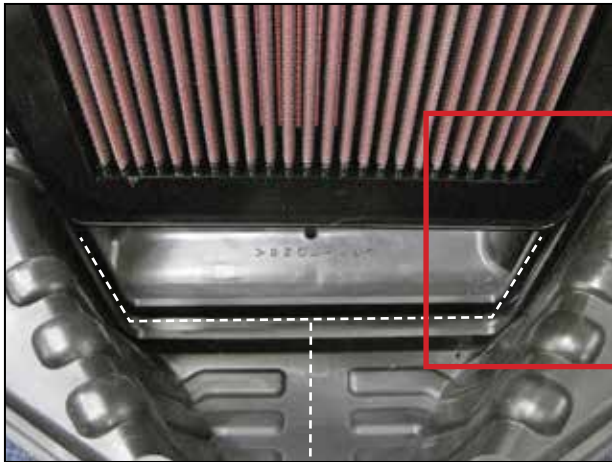

Fig. 1 Sealing Groove in air box
- Due to the taper of the air box and the unique shape of the filter, ensure that the filter is seated correctly into the sealing groove/channel of the air box. When sliding filter into place, check to make sure each side of the filter sits into the grooves of the air box on the left and right side. See Fig. 1 & 2